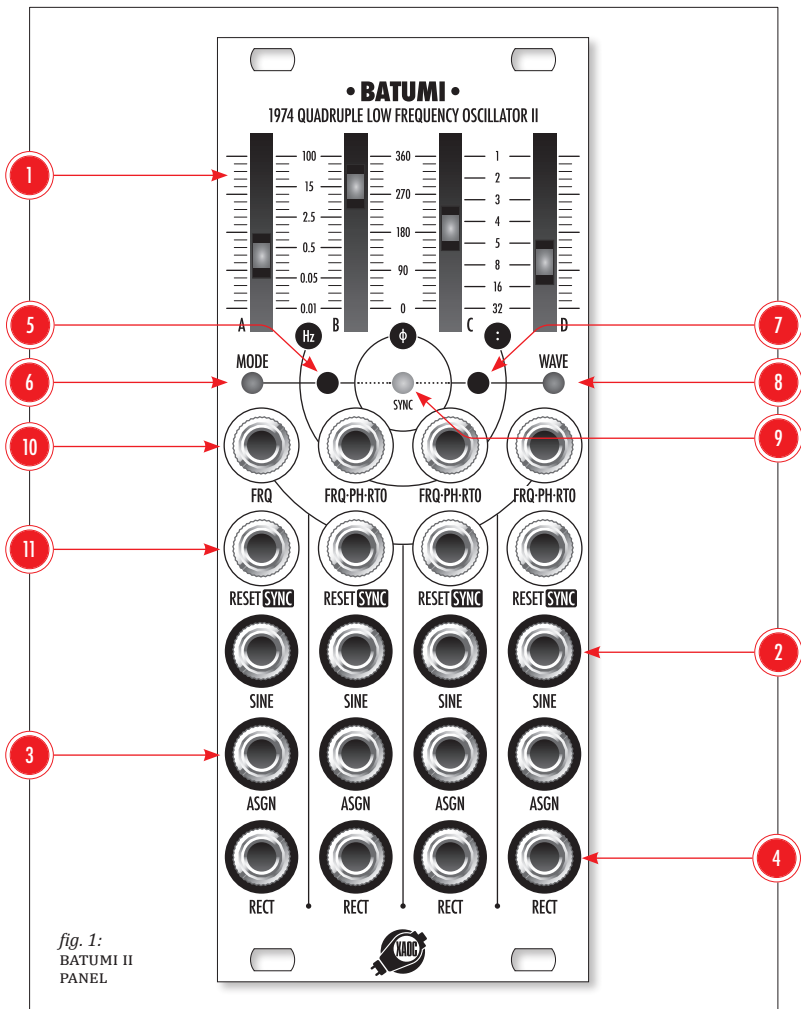

fig. 1:
The four channels of Batumi II (**A**, **B**, **C** and **D**) are arranged vertically (fig. 1), each featuring a slider potentiometer ❶ with an illuminated shaft and a column of jacks below. The first slider potentiometer controls channel **A**'s frequency. The other three sliders control one of the four main parameters as determined by the global mode setting: channels' frequency (**Hz**), phase shift (**Φ**), frequency division, or multiplication ratio (:).